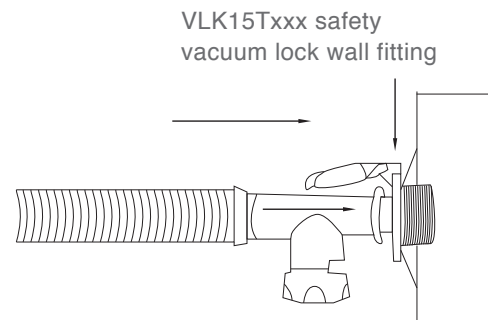

Fig. 6
- B. The wall port safety vacuum lock without a three-way or ball valve (see Fig. 6) or